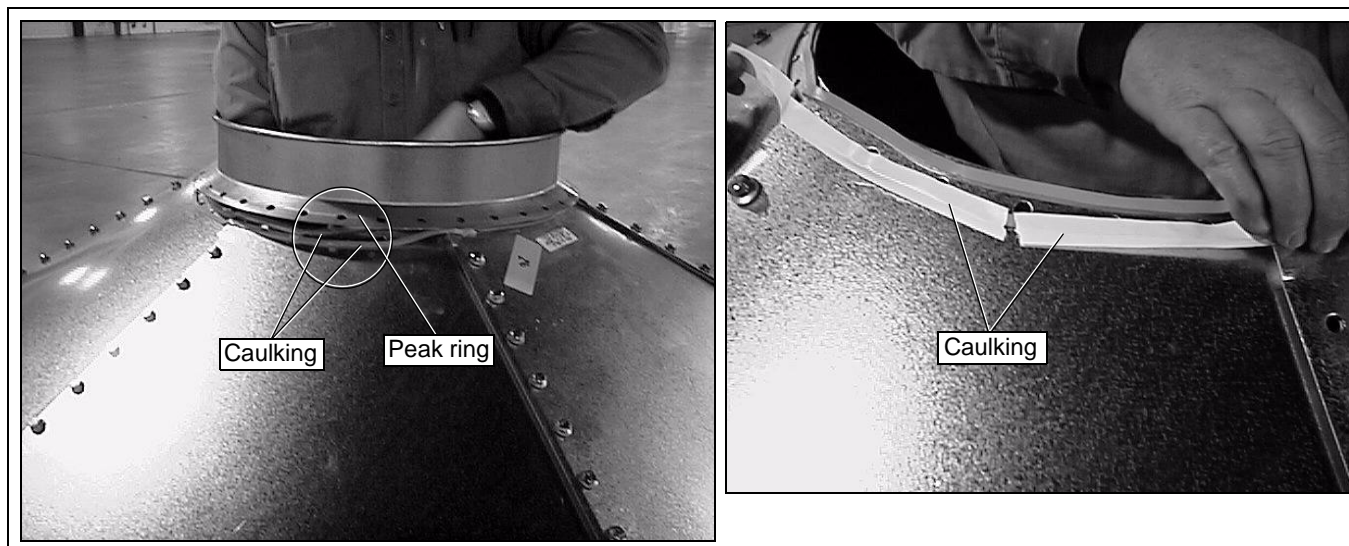

Figure 7C
The peak ring may now be installed. Again use two (2) strips of caulking between peak ring and roof panels. (See Figure 7C.) Note that the peak ring goes to the outside of the roof panels.